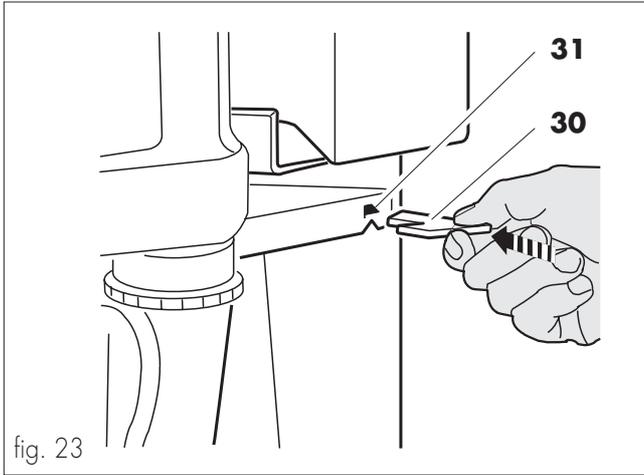

fig. 23
- Insert the key (ref. **30**, fig. 23) in the safety micro-switch operation opening (ref. **31**, fig. 23).
- Remove the micro-switch bypassing key.(ref. 30, fig. 23).